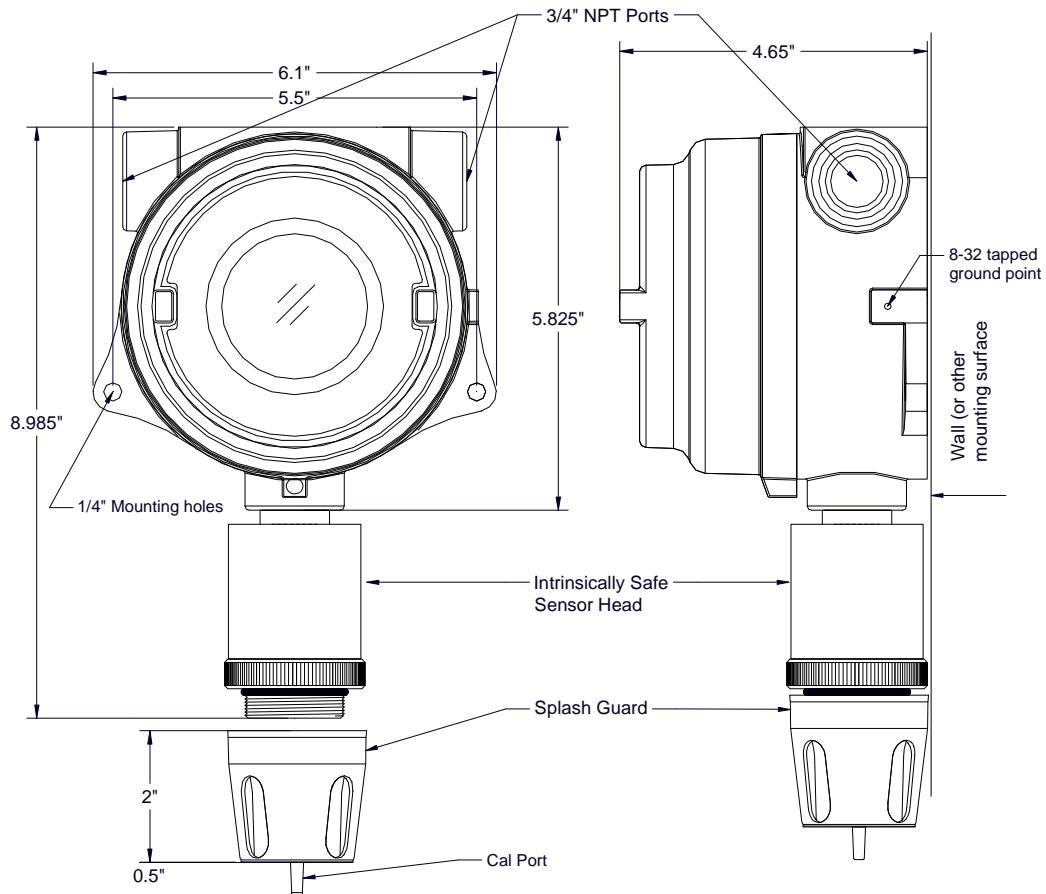

Figure 8 Typical Outline and Mounting Dimensions
- a. Securely mount the sensor junction box in accordance with recommended practice. See dimensional drawing (Figure 8).